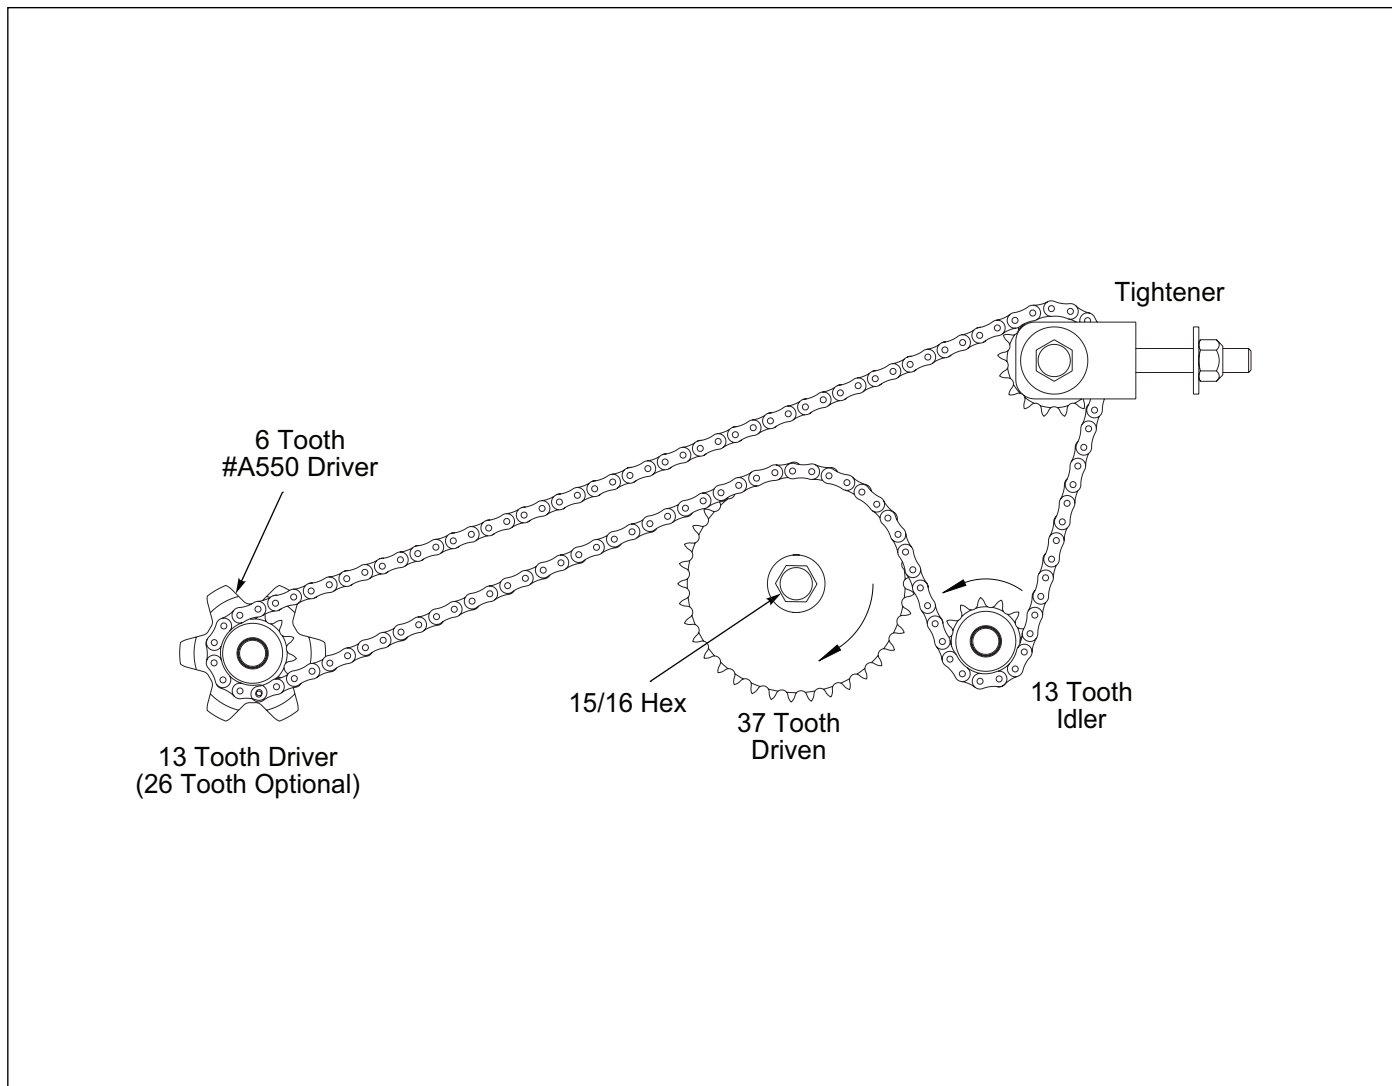

Figure 3-13: Transmission Drive
5. Turn 15/16 Hex on Transmission Shaft Clockwise(CW). See **Figure 3-13**.